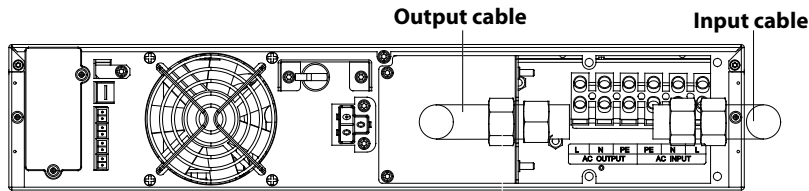

Figure 18: I/O Cable placement
4. Connect the input power source line, neutral and ground cables to the input line (L), neutral (N) and ground (PE) terminals on the UPS I/O terminal block; tighten the fixing screws (see Figures 18 and 19).
5. Connect the UPS output line, neutral and ground cables to the output line (L), neutral (N) and ground (PE) terminals on the UPS I/O terminal block; tighten the fixing screws (see Figures 18 and 19).